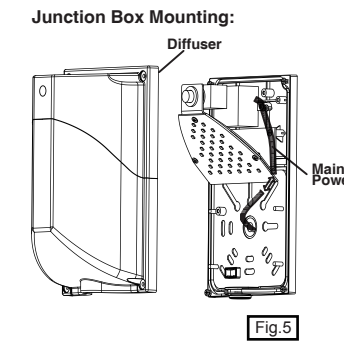

Fig.5
4. Wire main power (see wiring diagram). Lock diffuser firmly to back plate. Make sure top and bottom are oriented correctly by referring to the marking on the shield. (Fig. 5/6)